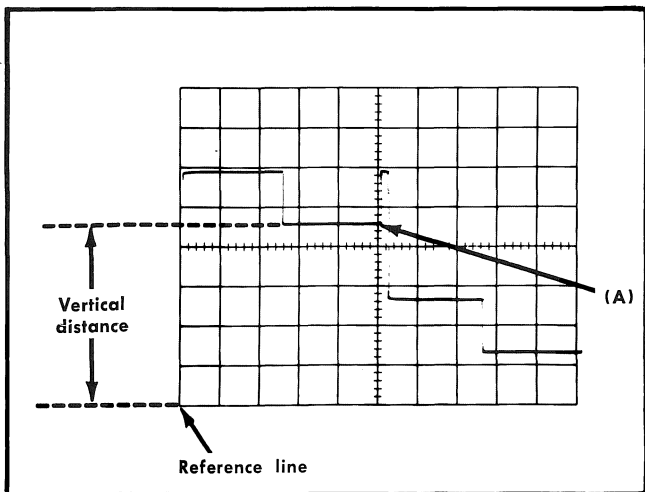

Fig. 2-15. Measuring instantaneous DC voltage with respect to a reference voltage.
9. Measure the distance in divisions between the reference line and the point on the waveform at which the DC level is to be measured. For example, in Fig. 2-15 the measurement is made between the reference line and point A.
EXAMPLE: Assume that the vertical distance measured is 4.6 divisions (see Fig. 2-15) and the waveform is above the reference line using a 10X attenuator probe and a VOLTS/DIV switch setting of 2.